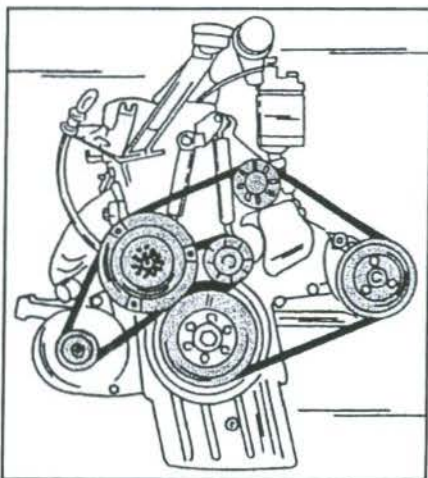

Fig. 1.90 – Layout of the drive belt for basic models without power-assisted steering.
Figs. 1.90 and 1.91 show the belt layout on some of the engines. If an A/C system is fitted, you will find an additional pulley below the pulley for the steering pump. The belt drive should be checked every 12,000 miles. To do this, mark an easy accessible part of the belt with chalk and crank the engine by at least one turn with the starter motor. To prevent the firing of the cylinders, push the stop lever on the injection pump towards the bottom. Ask a helper to operate the starter motor and check the whole length of the belt, i.e. until the chalk
- Remove the plug from the side of the injection pump at the position shown in Fig. 1.96. The serrated wrench 601 589 05 21 00 must now be used to rotate the pump until the lug (3) of the governor rotor is visible. In this position insert the locking tool 601 589 05 21 00, as shown in the illustration. Hand-tighten the nut of the locking bolt. If the tools can be obtained, carry out the operation by studying Fig. 1.90. Read the note below.